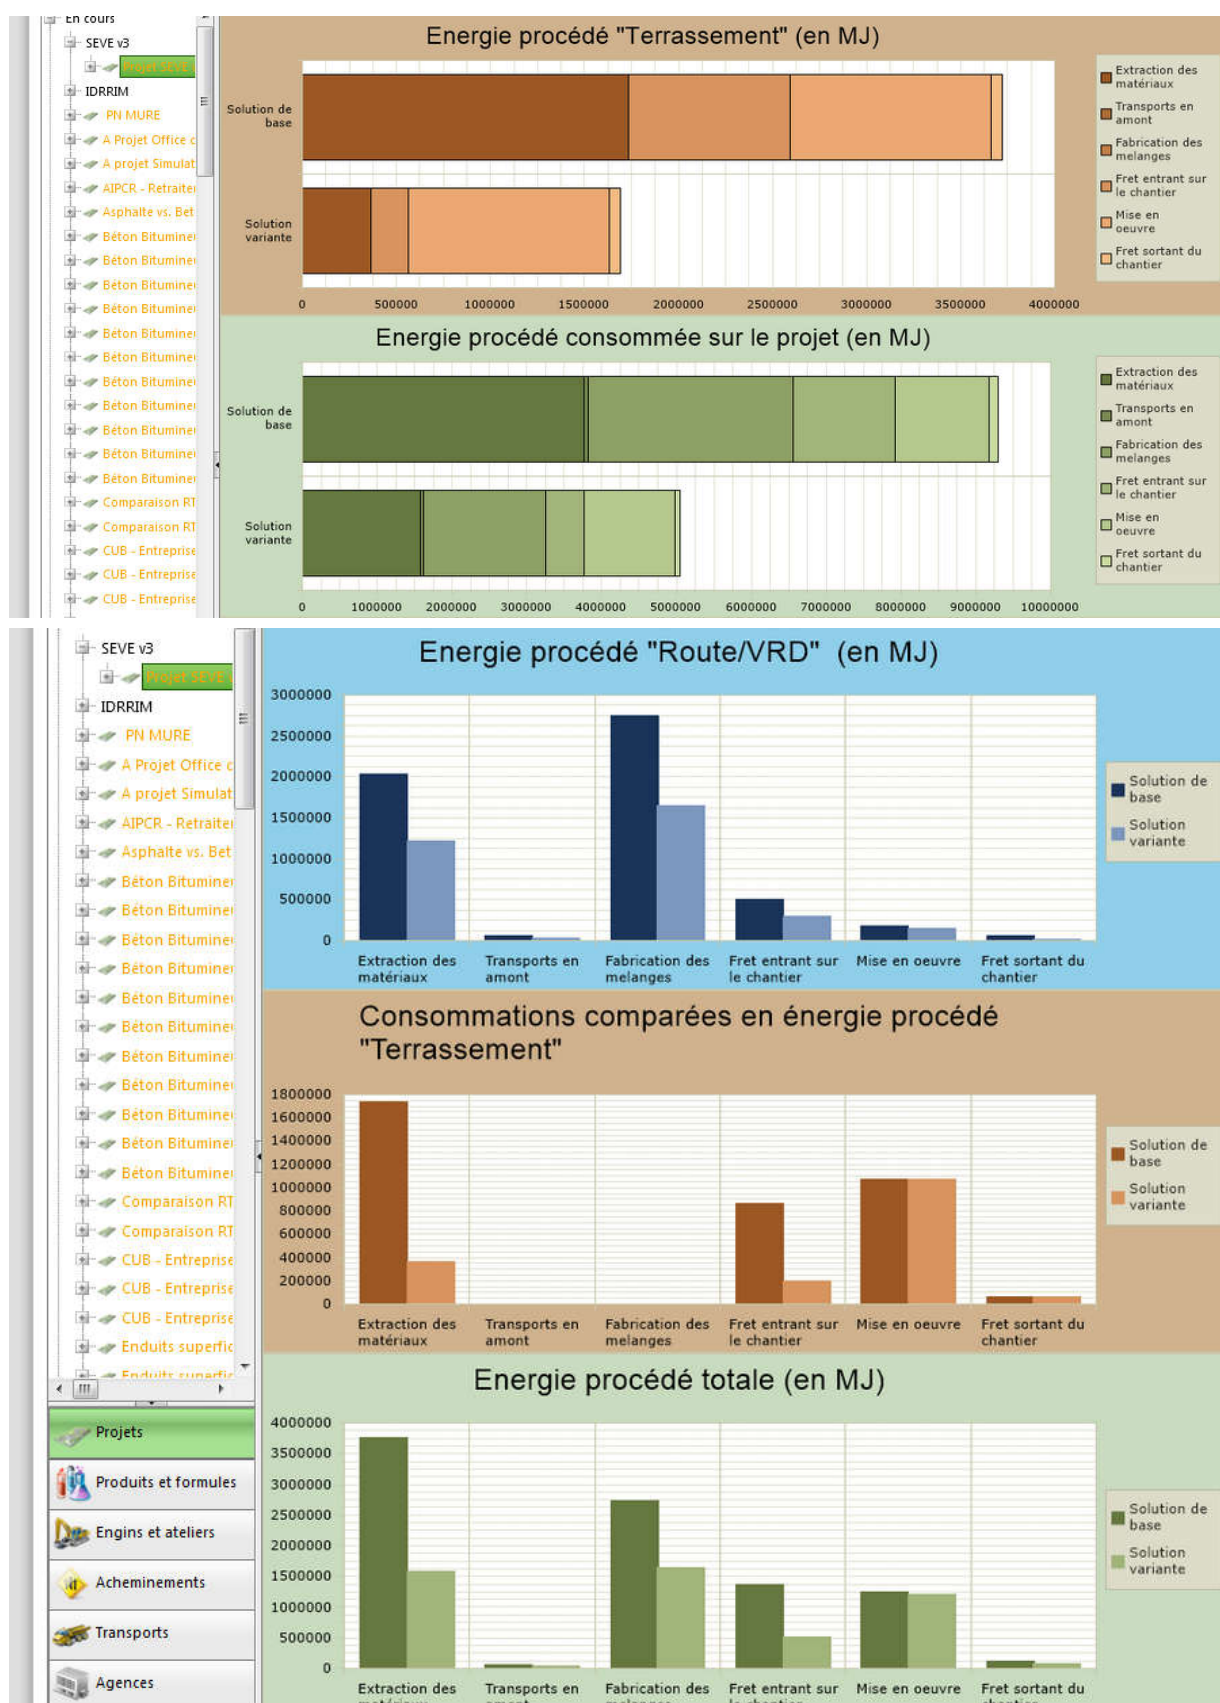
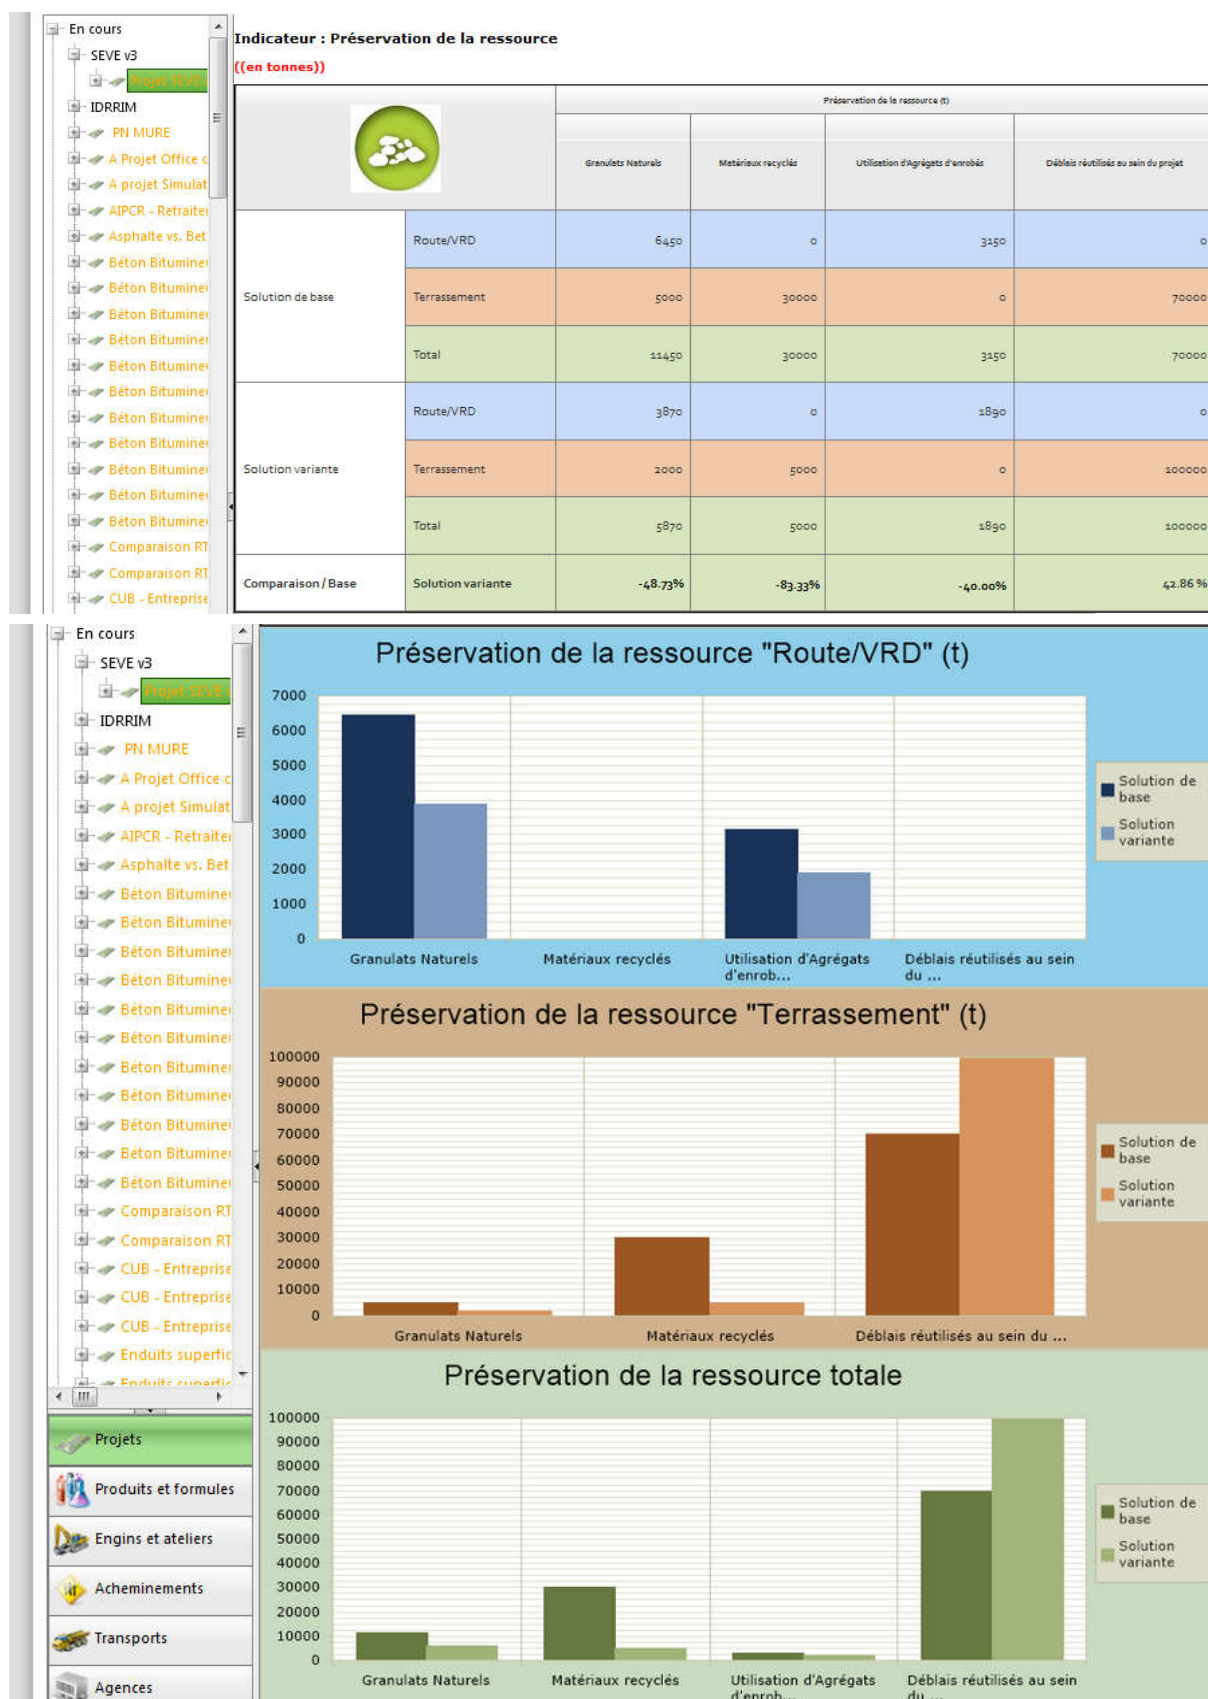
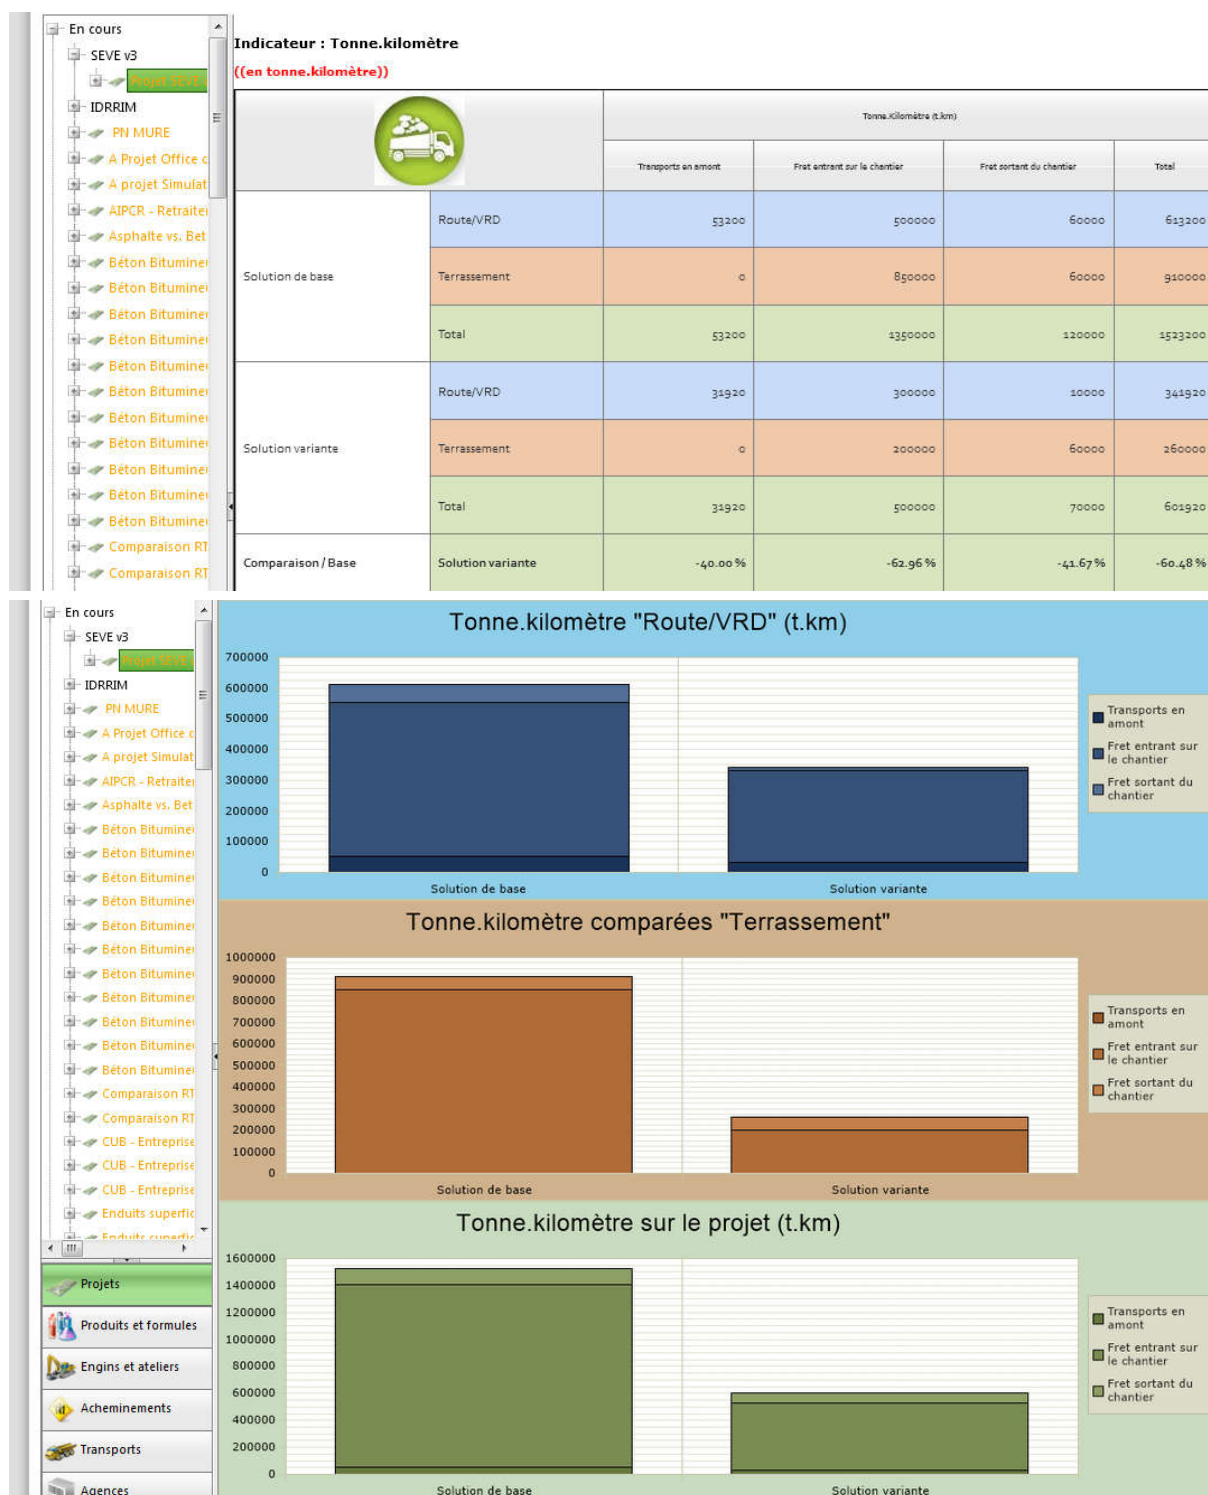

Figure 60 – Results on the Energy indicator (MJ)
Figure 62 – Results on the Resource conservation indicator
Figure 63 – Results on the Tonne.kilometer indicator (t.km)
The summary of the results is displayed directly on your web page in the following form, it is possible to view the results on the 4 quantitative indicators (Energy (MJ) (Figure 60), Greenhouse gas emissions (téq CO2) (Figure 61), Conservation of natural resources (tonne) (Figure 62) and tonne.kilometre (tonne.kilometre) (Figure 63))